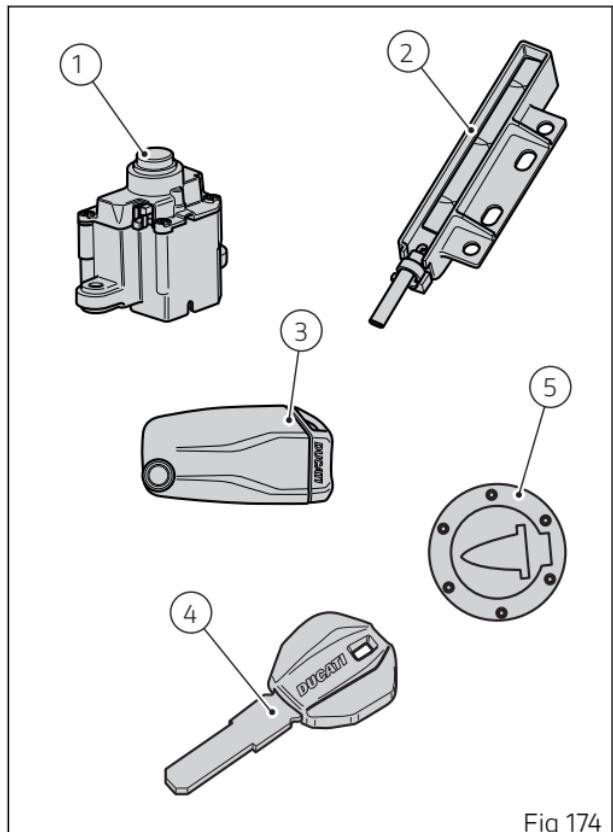

Fig 174
The "Hands free" unit (1, Fig 174) is located on tank front side and can be accessed by pulling up and removing protection cover (8).
Key-On can be performed by pressing button (6) on the handlebar and with the presence of the active key (3, Fig 174).
Key-Off can be performed by pressing the button (6) on the handlebar. It can also be performed without the key (3, Fig 174) only if motorcycle speed is equal to zero.
Key-On can be performed by pressing button (7) on the Hands free unit (1, Fig 174) and with the presence of the active key (3, Fig 174).
Key-Off can be performed by pressing button (7) on the Hands free lock (1, Fig 174), also without the key (3, Fig 174).
Key-On can be performed by pressing the grey button (6) on the handlebar and with the presence of the passive key (4, Fig 174).
Key-Off can be performed by pressing the grey button (6) on the handlebar. It can also be performed without the key (4, Fig 174) only if motorcycle speed is equal to zero.
Key-On can be performed by pressing button (7) on the Hands free lock and with the presence of the passive key (4, Fig 174).
Key-Off can be performed by pressing button (7) on the Hands free lock (1, Fig 174), also without the key (4, Fig 174).
Key-On can be performed by pressing button (7) on the hands free lock (1, Fig 174) without the presence of the keys (3) and (4) and entering the pin code on the instrument panel.